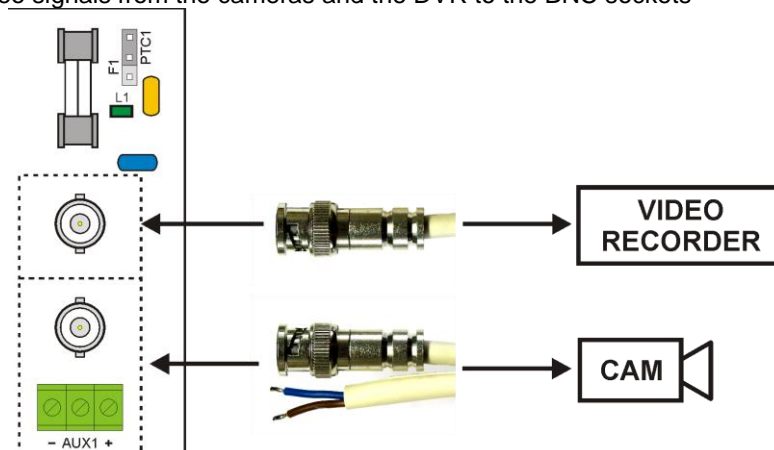

Figure 4. Connecting the camera and DVR to the BNC module.
4. Connect the power supply line and video signal to the BNC module (See Figure 4):